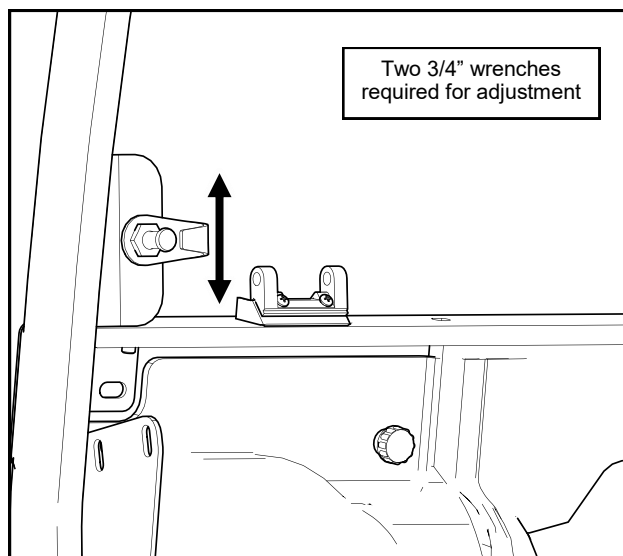

Fig. 19.3a (Door Striker Pin Adjustment)
- Adjust the striker pin on the side frame vertically - See Fig. 19.3a